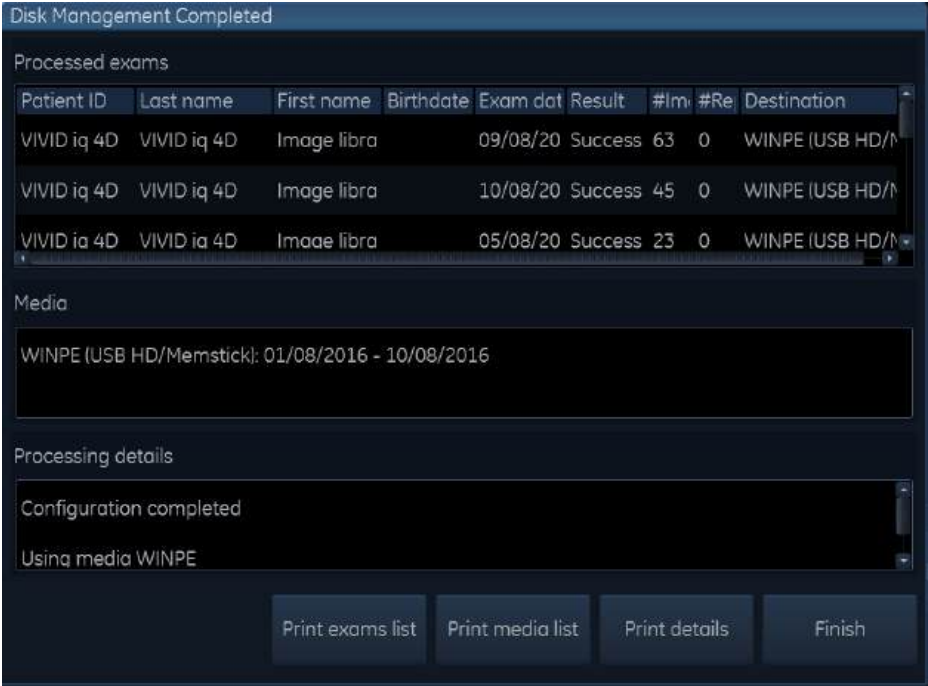

Figure 3-62. The Disk management completed window
5. When all the files are copied, the *Disk management completed* window is displayed (Figure 3-62), showing the list of processed examinations, the media used and a detailed log.